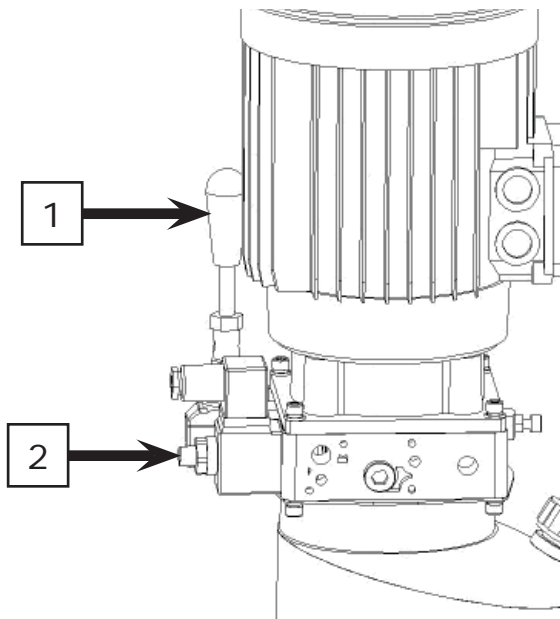
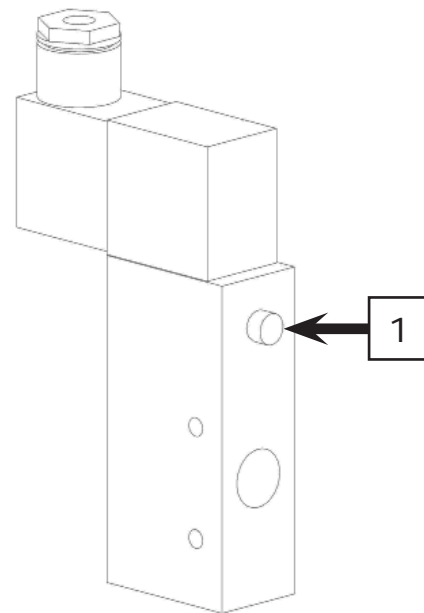

Fig. 17
Fig. 18
In case of no electric power or power unit failure, lower the loaded vehicle manually to its initial position as follows referring to the figure 17 and the figure 18:
- If the safety is engaged, the safety should be released before lowering the lift, operate the emergency hand pump (fig.17 - 1) to raise the lift a little bit to clear off the safety;
- Keep pressing the emergency button (fig.18 - 1) on the solenoid air valve in the control unit;
- Loosen the lowering solenoid valve by turning the emergency screw (Fig. 17 - 2) anti-clockwise to lower the lift. The lowering speed can be controlled by turning the screw more turns or less;